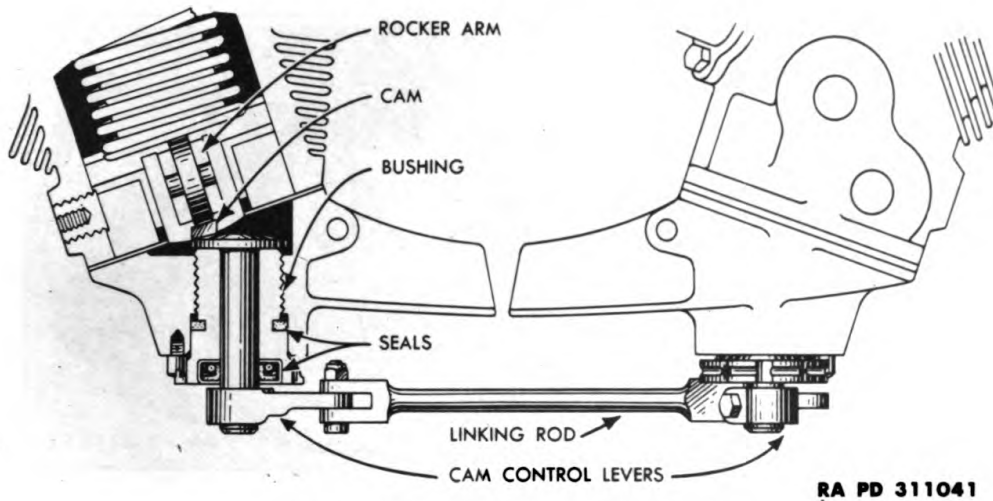

Figure 29 — Oil Drain Mechanism
- (1) **CLUTCH RELEASE SLEEVE.** Refer to paragraph 9 d (2) (c).
- (2) **CLUTCH SPINDLE.** Press bearing into spindle, using suitable drift. Pack bearing with ball and roller bearing grease. Drive oil seal into spindle bore.
a. **Disassembly** (fig. 29). Disconnect rocker box covers by removing link joining two levers of oil drain mechanism. Loosen cap screws holding lever on cam and lift levers from cam. Remove screw which locks bushing to cover and screw bushing assembly from rocker box cover. Remove key and lift bushing assembly from cam.